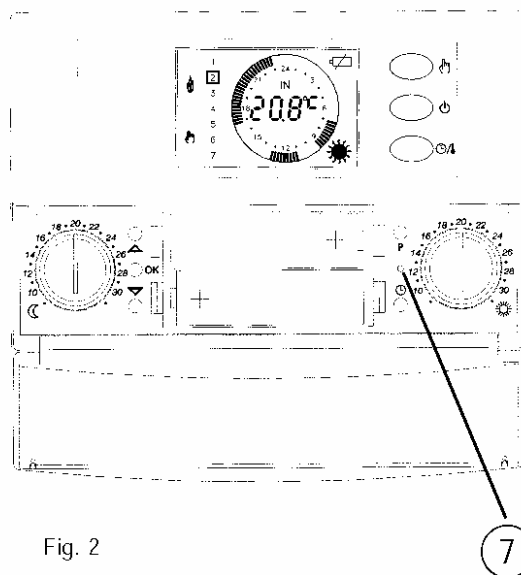

Fig. 2
At first operation insert the batteries respecting the polarity and perform a reset of the chronostat with a small tip through the hole (7) Fig. 2.